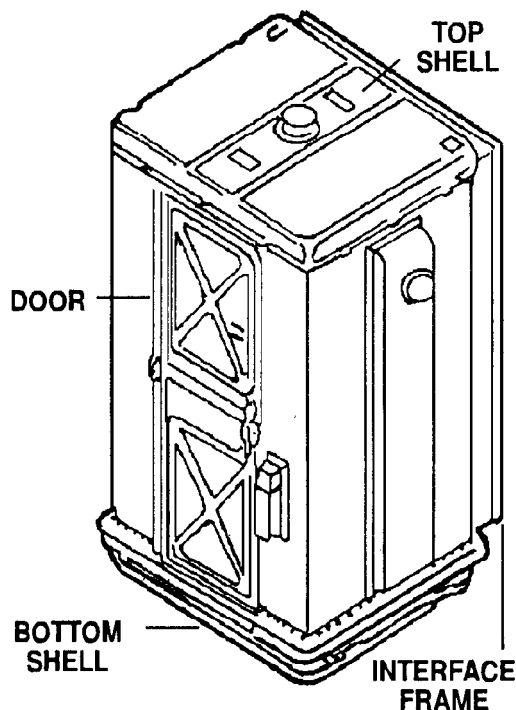
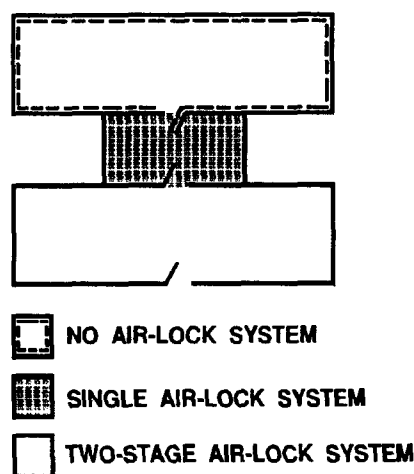

Figure 6-8. M12 protective entrance.
Figure 6-9. Collective-protection entrance configurations.
**Single air lock.** In most cases, vans and shelters modified for collective protection use a single-compartment protective entrance. An example is the M12 protective entrance (Figure 6-8). This variation consists of the clean shelter area and an air lock (Figure 6-9). Before entering the air lock from a contaminated area, personnel must remove their MOPP gear except gloves and mask. Minor exposure to chemical agent vapor is possible between overgarment removal and entrance into the air lock. Clothing tends to absorb any chemical agent vapor in the atmosphere during this brief exposure. The amount of agent absorbed depends on agent concentration in the atmosphere, length of exposure, type of agent, type of clothing exposed, and climatic conditions. The air purge in the air lock flushes out the contaminated air brought in. It also reduces the amount of absorbed agent on clothing before the soldier enters the protective shelter. After a soldier and/or piece of equipment enters the protective shelter, monitoring ensures hazardous levels of agent were not carried inside.
Two-stage air lock. Adding a contamination control area (CCA) to a single air-lock system creates a two-stage air lock (Figure 6-9). Entering soldiers remove MOPP gear in the CCA. This affords better control of the liquid and vapor hazards of entry and exit.